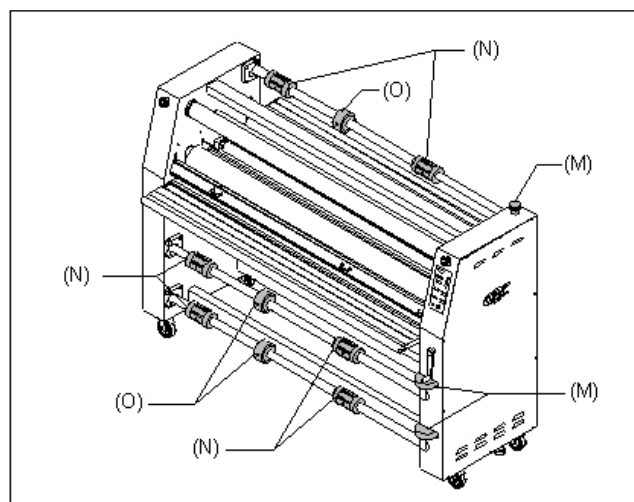

Fig 14
N. FILM SHAFT BRAKE: (Figure 14) Used to apply resistance to the film shaft. One for the upper unwind and one for each of the lower unwinds.
O. CORE ADAPTERS: (Figure 14) Hold and lock the rolls of film on the shafts to prevent side to side shifting.
P. CENTER CORE SUPPORT: (Figure 14) Supports the center of the film cores when placed onto the unwind shafts.